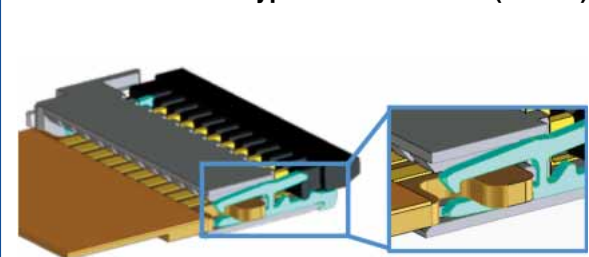

Fig.3
- \* In horizontal direction : Approximately 2.5N higher than FH34SRJ (Fig.3)